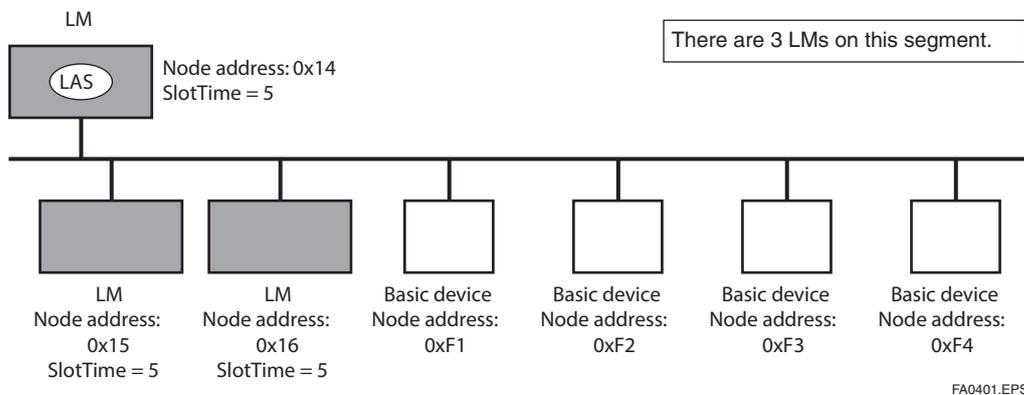

Figure A4.1 LM Device and Basic Device
Any devices having the function as LAS are called a link master (LM). Though there must be always one LAS on the link, there can be multiple LM devices. (Figure A4.1)